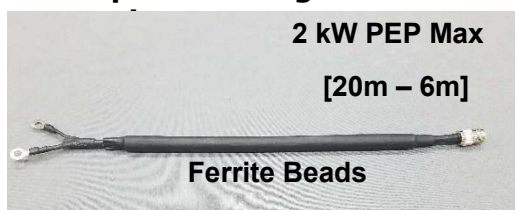

FIGURE 129
- XOR also offers a SO239 to pigtail coax/Ferrite Bead assembly (**FIG.129**) having 10 Ferrite Beads with -23dB of CMRR on all Bands.